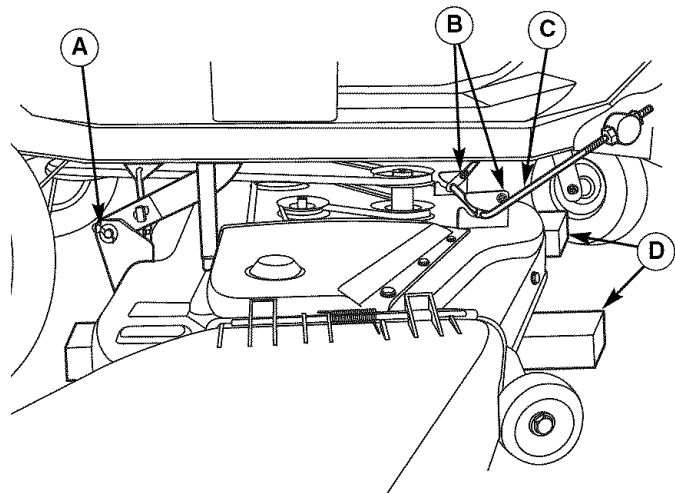
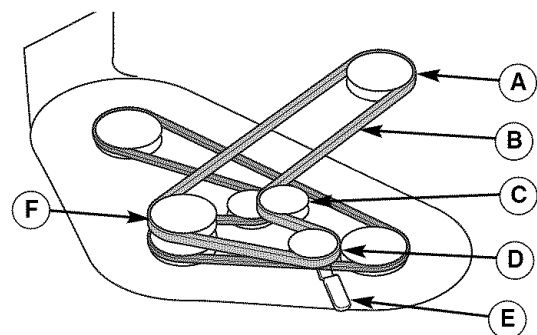

Figure 10. Mower Hitch Components
Figure 11. Mower Belt Routing
3. Use the mower belt release lever (D, Figure 11) to release belt tension. Remove the mower belt from engine pulley (A).
6. Place 4x4 wood blocks (D, Figure 10) under the front and rear lip of the mower deck to securely support it.
9. Remove the hair pin clip (A) securing the rear mower lift arm. Separate the lift arm from the mower deck. Repeat on both sides of the mower.
10. Remove the 3/8-16 x 3/4 carriage bolt and flange nut (B) securing the hitch rod retainer. Remove the retainer and hitch rod (C).
1. Slide the mower deck under the right side of the rider. Slide the mower forward and hook the front hitch rod (D, Figure 10) to the front mower deck hooks.
2. Install the hitch retainer bracket (B) and secure with two 3/8-16 x 3/4 carriage bolts and flange nuts (C).
3. Slide the mower deck backwards and connect the rear lift arms to the mower deck. Secure with hair pin clips (A).
5. Use the cutting height switch to raise the mower until it is no longer resting on the 4x4 wood blocks (E).
6. Turn the ignition switch OFF and remove the key. Remove the 4x4 blocks (E).
7. Use the mower belt release lever to release mower belt tension, and install the belt as shown in Figure 11.